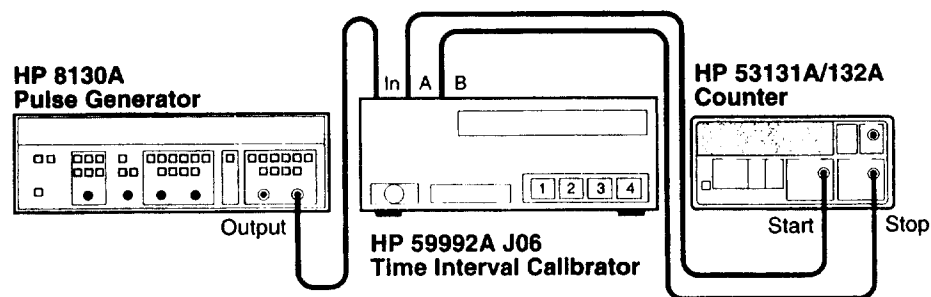

Figure 2-4. Calibration Setup for CAL: TI FINE?
- 1 Connect the HP 8130A Pulse Generator, HP 59992A J06 Time Interval Calibrator, and HP 53131A/123A Counter as shown in Figure 2-4.